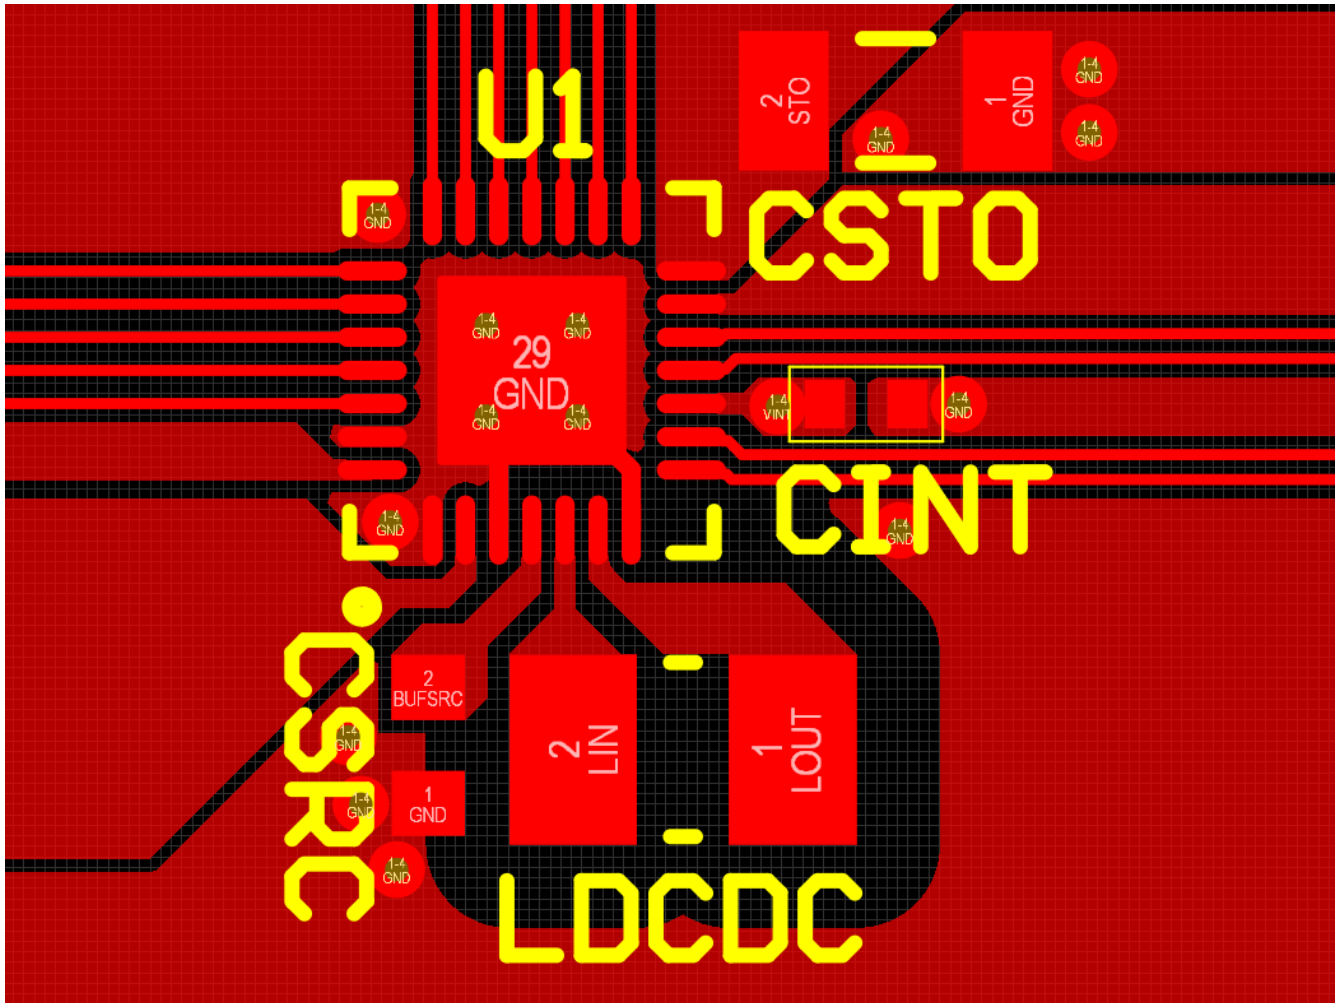

Figure 15: Layout Example for the AEM00300 and its Passive Components
- The switching nodes (**LIN** and **LOUT**) must be kept as short as possible, with minimal track resistance and minimal track capacitance. Low resistance is obtained by keeping track length as short as possible and track width as large as possible between L_{DCDC} and the AEM00300 pins. Minimal capacitance is obtained by keeping distance between **LIN/LOUT** and other signals. We recommend removing the ground plane, the power plane and the bottom layer ground pour under L_{DCDC} footprint, as well as adding distance between **LIN/LOUT** and the top ground pour, as shown on Figure 15.